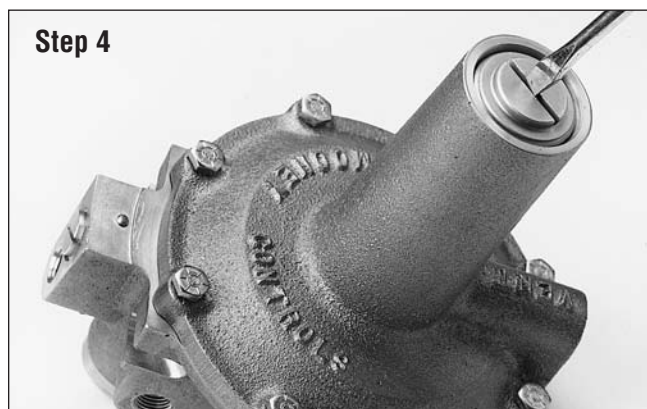

Figure 19 - The spring tension is released by unscrewing the Spring Adjuster.
4. Remove top Cover from the spring barrel of the pilot and release spring tension by unscrewing the Spring Adjuster (refer to Figure 19).